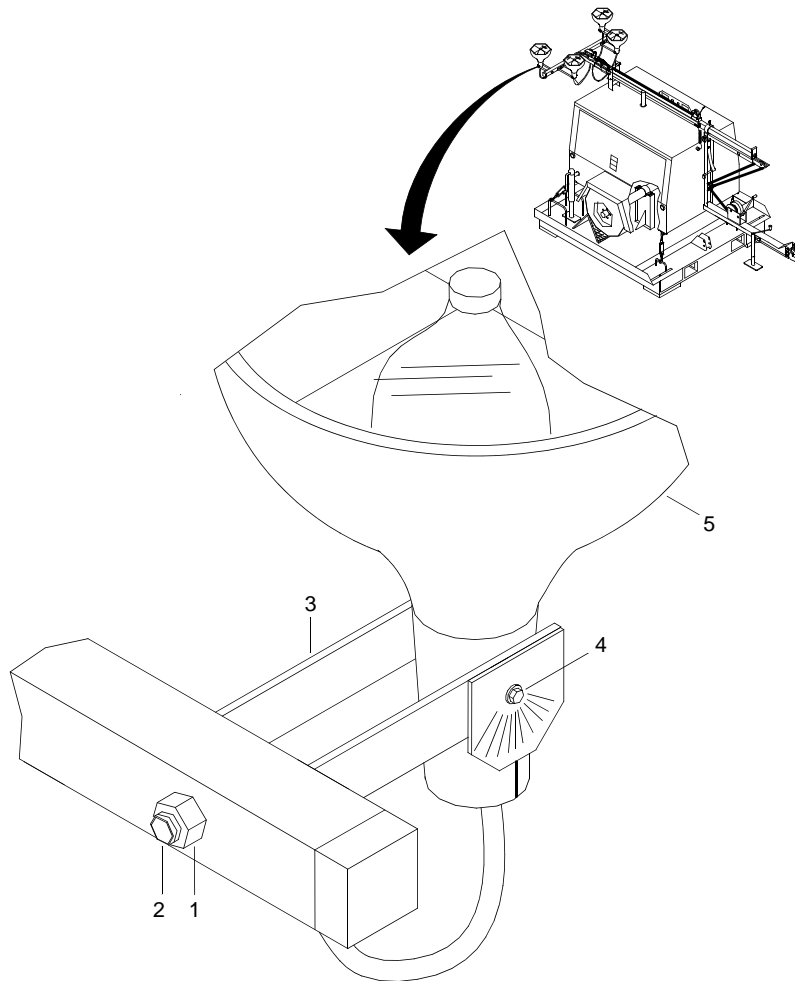
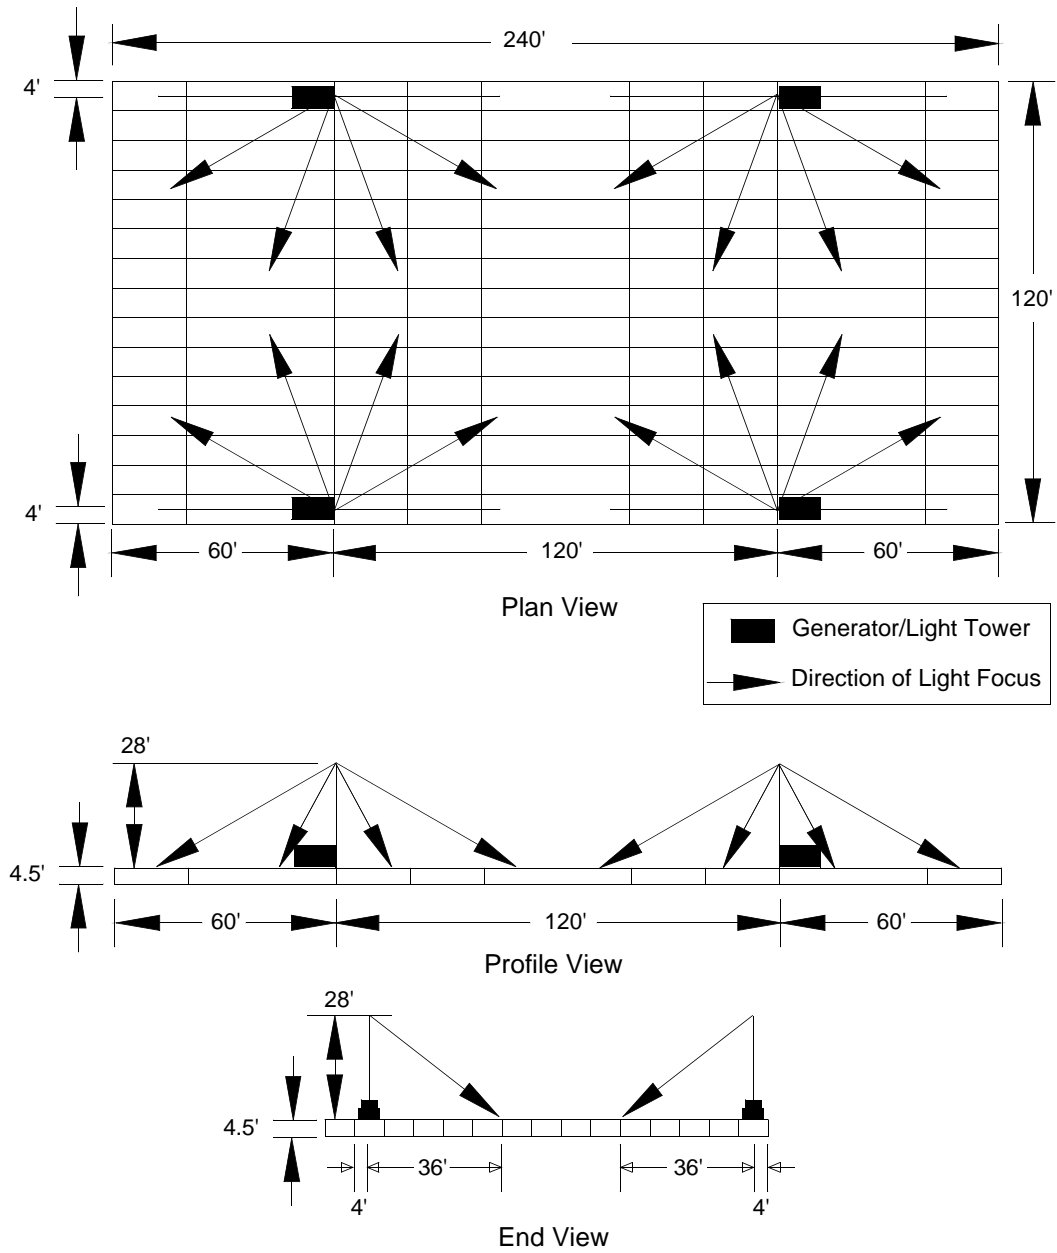

Figure 6. Light Adjustment
Figure 7. Light Positioning Angles
37. Loosen nut (figure 6, item 1) on bolt (figure 6, item 2) of light mounting bracket (figure 6, item 3)
38. Loosen light bracket retention bolts (figure 6, item 4) on both sides of light (figure 6, item 5).
39. Rotate and pivot light (figure 6, item 5) to desired position as required. Refer to figure 7.
40. Tighten all nuts (figure 6, item 1) and bolts (figure 6, items 2, 4) to prevent movement of light (figure 6, item 5).